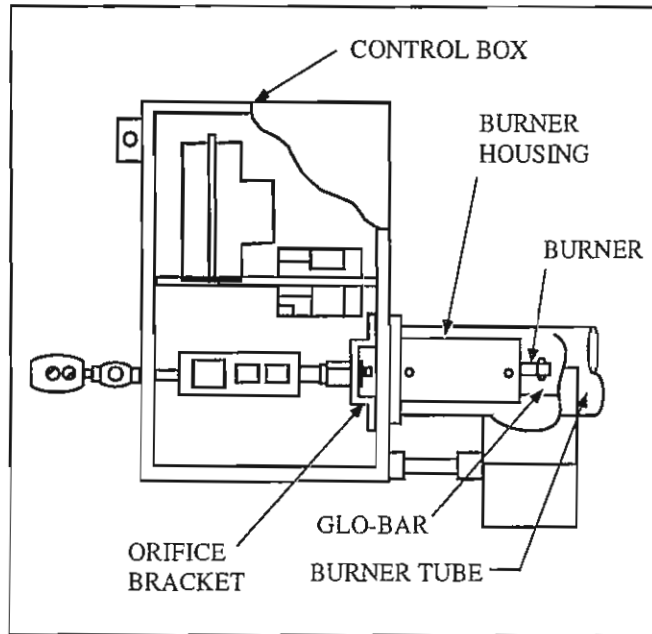

Figure 4-1
2. Remove cover from control box (see Figure 4-1).